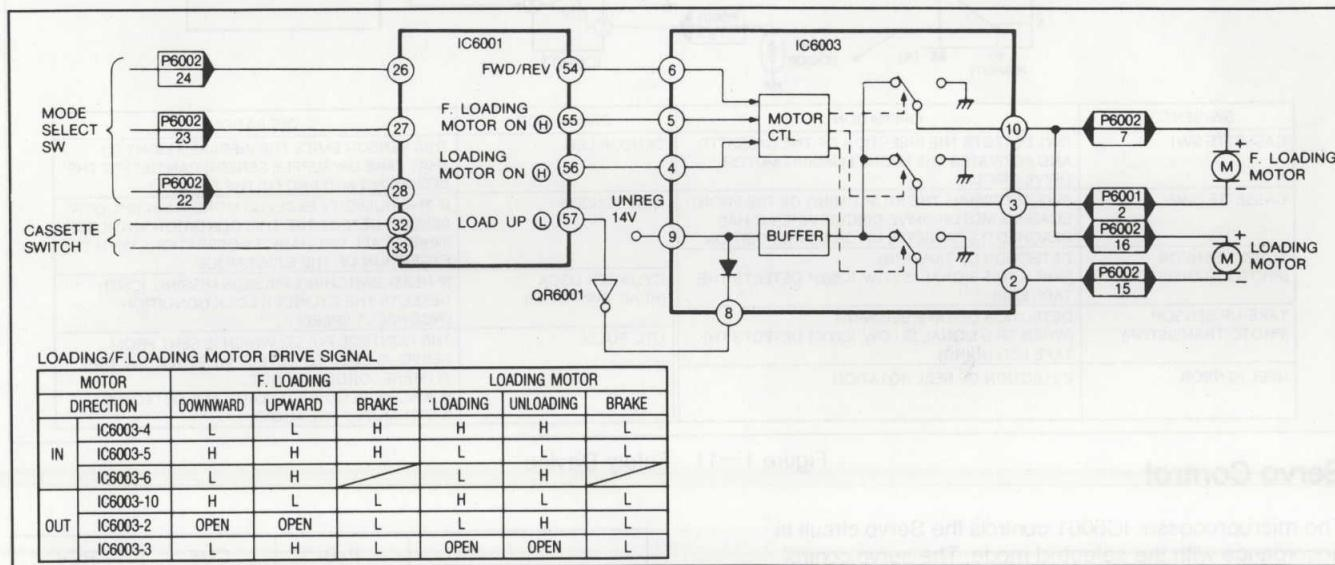

Figure 1-9 Front Loading/Loading Motors Drive
- Timing of the motor drive signal is shown in Figure 1-9.
- The Front Loading motor is controlled by the cassettes switches SW1 and SW2 (See Figure 1-9).